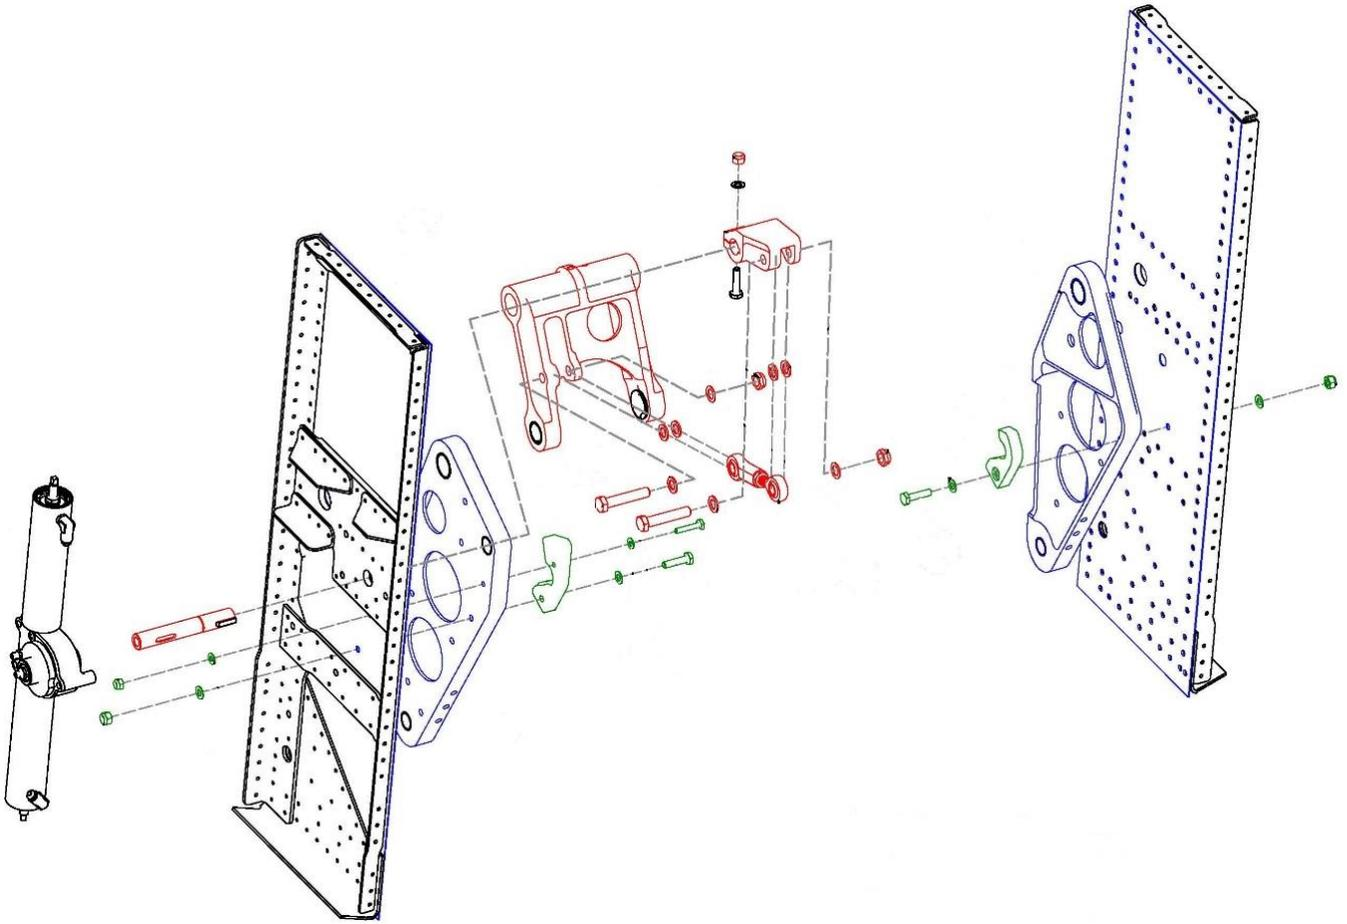

Figure 1
7. Remove both the large and small snubber blocks mounted in the main landing gear. See Figure 1, all the green parts shown in Fig 1 will be removed.